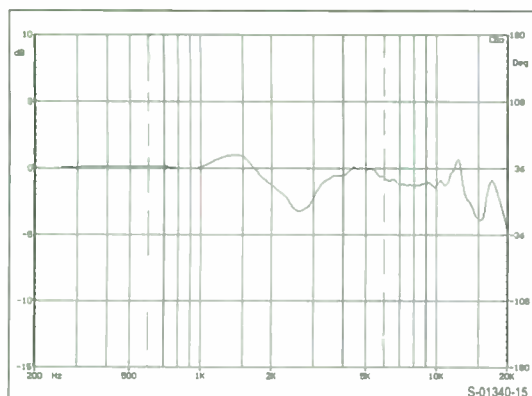

FIGURE 15: Effect of grille on rebuilt AR-3a system response.
grille off. *Figure 15* shows the response of the rebuilt AR-3a with the grille on, but referenced to the response with the grille off. That is, it plots the *difference* in response under the two conditions. Below
4. *Figure 15* shows about a 3dB p-p variation due to the grille. I did most of my listening with